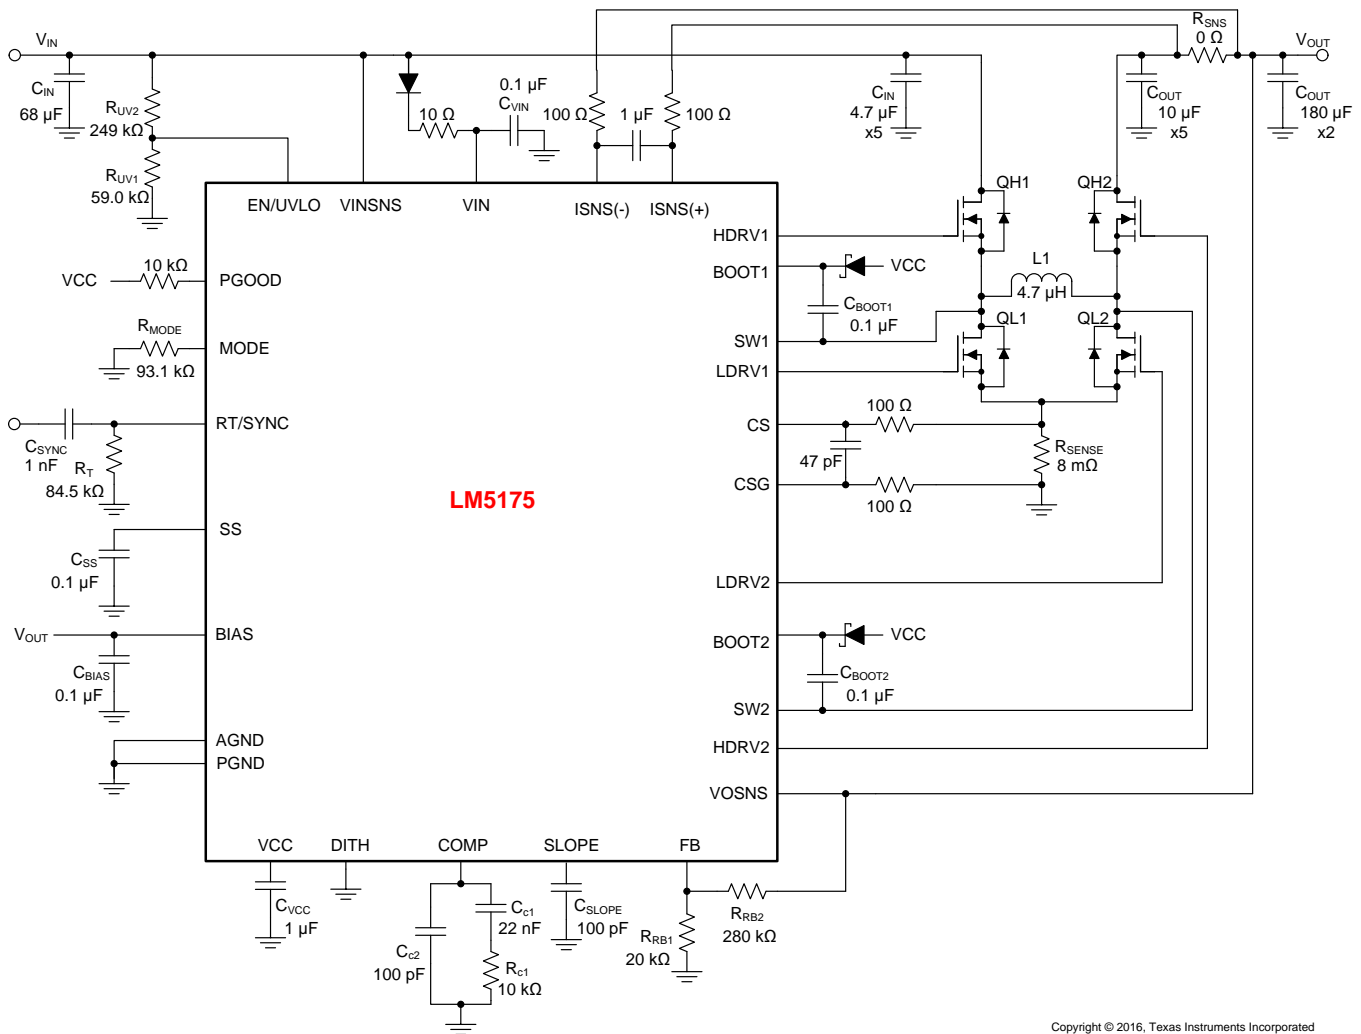

Figure 24. LM5175 Four-Switch Buck Boost Application Schematic
The LM5175 has a gm error amplifier for loop compensation. The gm amplifier output (COMP) range is 0.3 V to 3 V. Connect an  $R_{C1}$ - $C_{C1}$  compensation network between COMP and ground for type II (PI) compensation (see Figure 24). Another pole is usually added using  $C_{C2}$  to suppress higher frequency noise.
The low-side gate drivers are powered from VCC and the high-side gate drivers HDRV1 and HDRV2 are powered from bootstrap capacitors  $C_{BOOT1}$  (between BOOT1 and SW1) and  $C_{BOOT2}$  (between BOOT2 and SW2) respectively. The  $C_{BOOT1}$  and  $C_{BOOT2}$  capacitors are charged through external Schottky diodes connected to the VCC pin as shown in Figure 24.
Typically a combination of ceramic and bulk capacitors is needed to provide low ESR and high ripple current capacity. The complete schematic in Figure 24 at the end of this section shows a good starting point for  $C_{\text{OUT}}$  for typical applications.
The maximum RMS current occurs at  $D = 0.5$ , which gives  $I_{CIN(RMS)} = I_{OUT}/2 = 3$  A. A combination of ceramic and bulk capacitors should be used to provide short path for high  $di/dt$  current and to reduce the output voltage ripple. The complete schematic in Figure 24 is a good starting point for  $C_{IN}$  for typical applications.
For some application circuits, it may be required to add a filter network to attenuate noise in the CS and CSG sense lines. Please see Figure 24 for typical values. The filter resistance should not exceed 100  $\Omega$ .